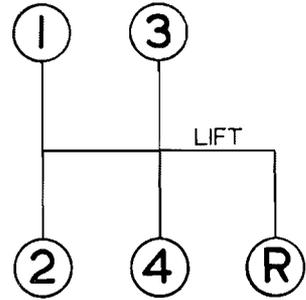

Fig. 2. Gear positions.
- (S) **Choke Control.** See page 9 for full instructions.
- (R) **Gear Lever.** See Fig. 2 for gear positions.
- (T) **Handbrake.** Pull to operate rear wheel brakes. The lever will be held in any position by pressing the button on top of the lever and releasing the lever. To release ratchet, first pull lever when the pawl will automatically spring out of engagement with the ratchet and the lever is free to release the brakes.